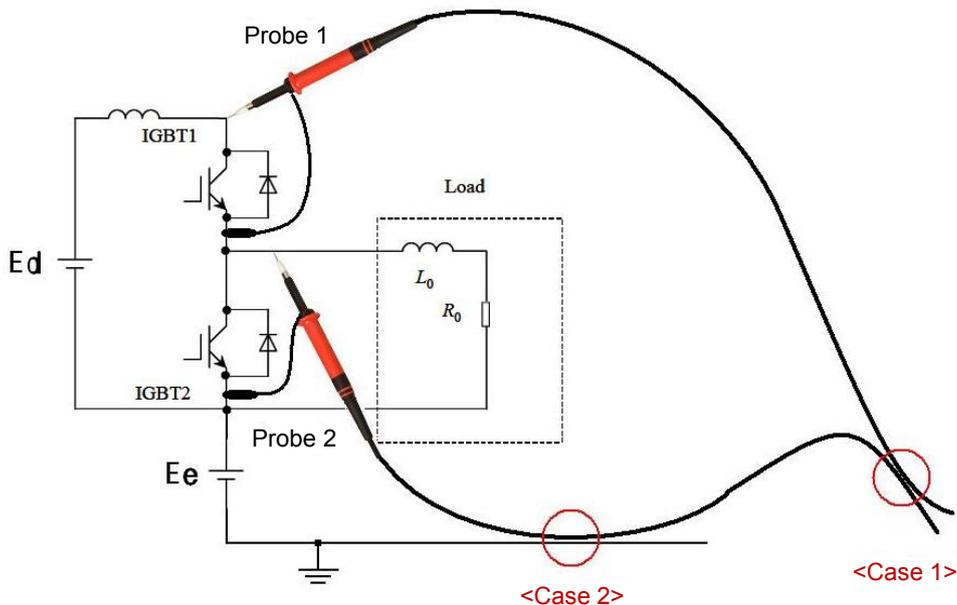

Figure 7.1 Example of floating measurement
When two IGBTs are measured as shown in Figure 7.1 “Example of floating measurement,” voltage between the reference voltages of probe 1 and probe 2 can reach  $E_d$  (V). Therefore, if coaxial cables of these two probes touch, voltage difference between these two ground sheaths can be  $E_d$  (V), and numerically, it must be twice or less the rating voltage of the outer sheaths of coaxial cables.
If the coaxial cable of probe 2 in the above Figure 7.1 touches conducting material with ground potential, the outer sheath of the coaxial cable must withstand voltage of  $E_e$  (V), since the circuit voltage is equal to  $E_e$  (V). In this case,  $E_e$  (V) needs to be below the rating voltage of the outer sheath of the coaxial cable.
In the case of PHV probe (PMK),  $E_e$  must be 1000V or less, because rating voltage of the outer sheath of the coaxial cable of the PHV probe is 1000V. If the coaxial cable of probe 1 in Figure 7.1 touches the conducting material with ground potential,  $E_d + E_e$  must be 1000V or less.